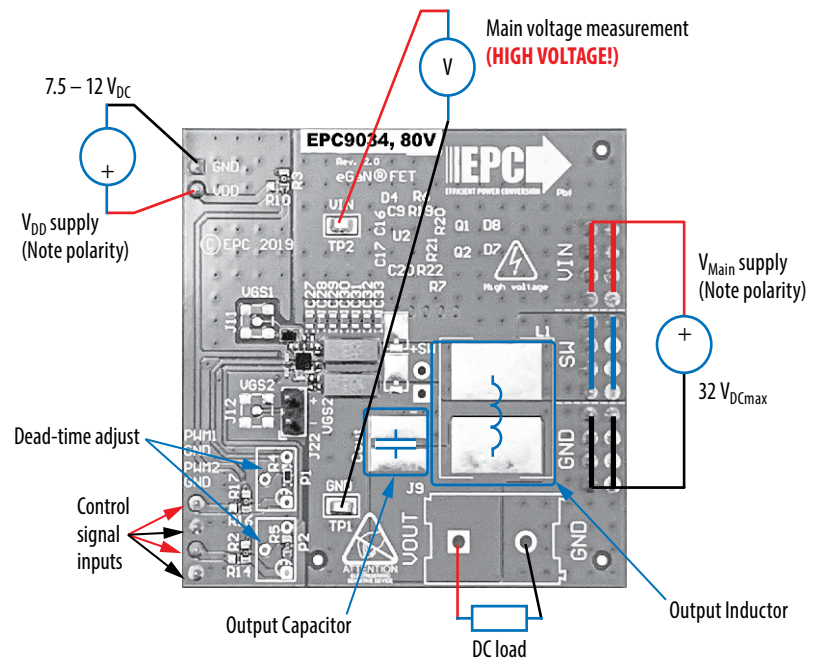
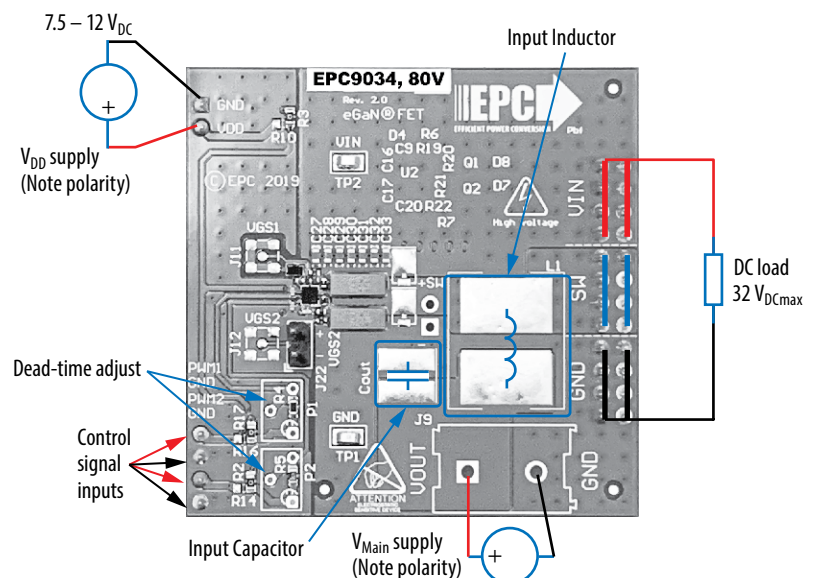

Figure 2: Buck configuration
Figure 3: Boost configuration
The half bridge development board EPC9034 is easy to set up as buck or boost converter. Refer to figure 2 for buck converter configuration and measurement setup, and figure 3 for boost converter setup, and follow the procedure below:
2. With power off, connect the switch node (SW) of the half bridge to your circuit as required (half bridge configuration). Or use the provided pads for inductor (L_1) and output capacitors (C_{OUT}), as shown in figure 2 with a DC load connected across V_{OUT} and GND.
1. The inductor (L_1) and input capacitors (labeled as C_{out}) can either be soldered onto the board, as shown in figure 3, or provided off board. Anti-parallel diodes can also be installed using the additional pads on the right side of the EPC2021 FETs.